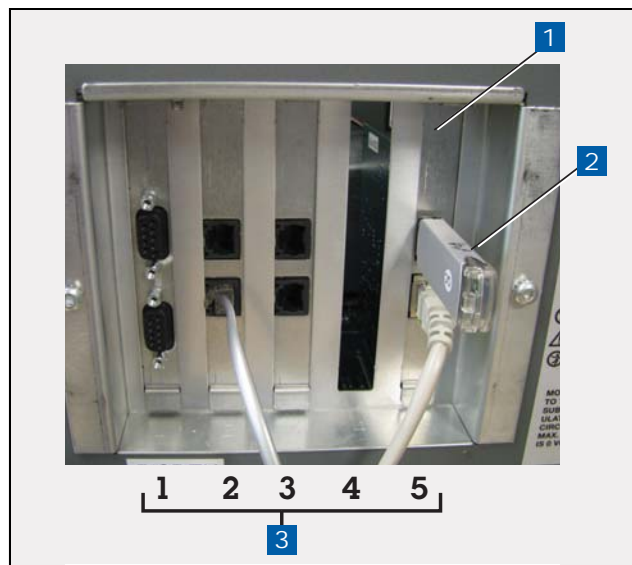

Figure 1. USB/Ethernet Board - V-R Thumbdrive Port
1. Insert the V-R Backup Thumbdrive (P/N 332970-004) in the external USB port on the USB/Ethernet card, P/N 332913-001 (see item 2 in Figure 1).
#### LEGEND FOR NUMBERED BOXES IN Figure 1
2. Remove Comm boards from Comm Module Bay slots 4 and 5 (see Figure 1) and set aside.